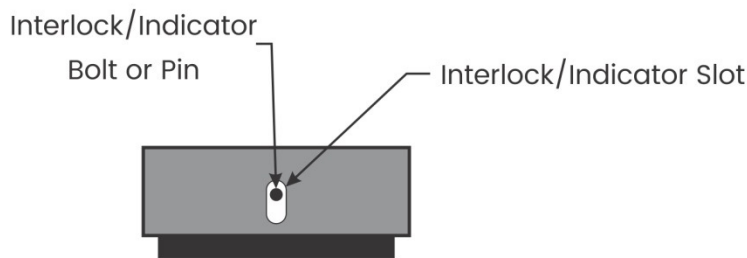
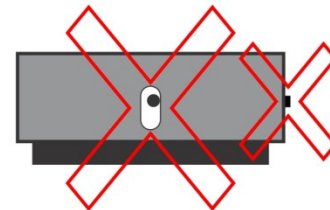

Figure 3A
Figure 3B
- Models 16 and BFM series isolators are equipped with four Interlock/Indicator bolts or pins. These serve as a quick check for centering the resilient cushion. The Interlock/Indicators should be centered side-to-side in the interlock slots as shown in Figure 3A. If the resilient cushion is not centered, the Interlock/Indicators appear as shown in Figure 3B.